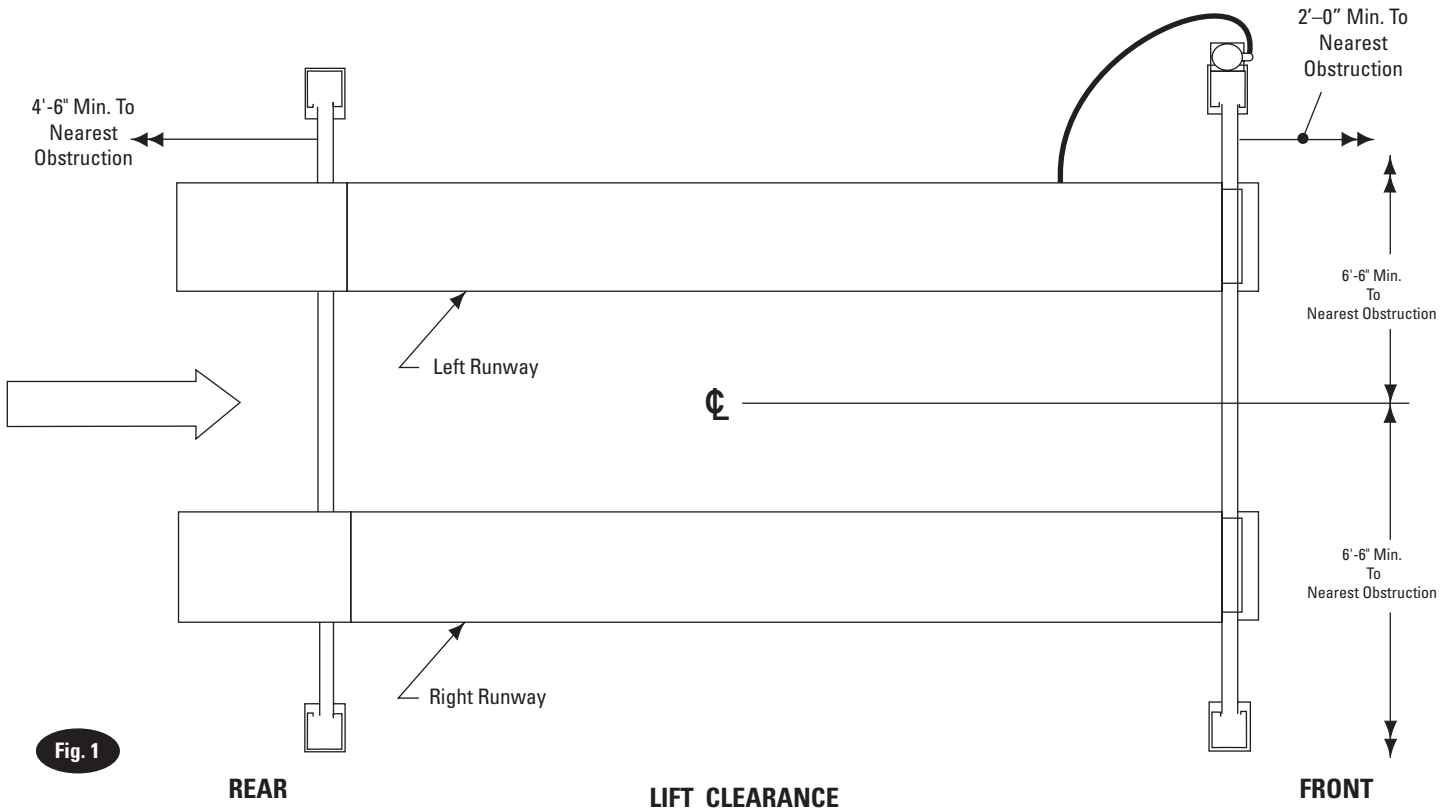
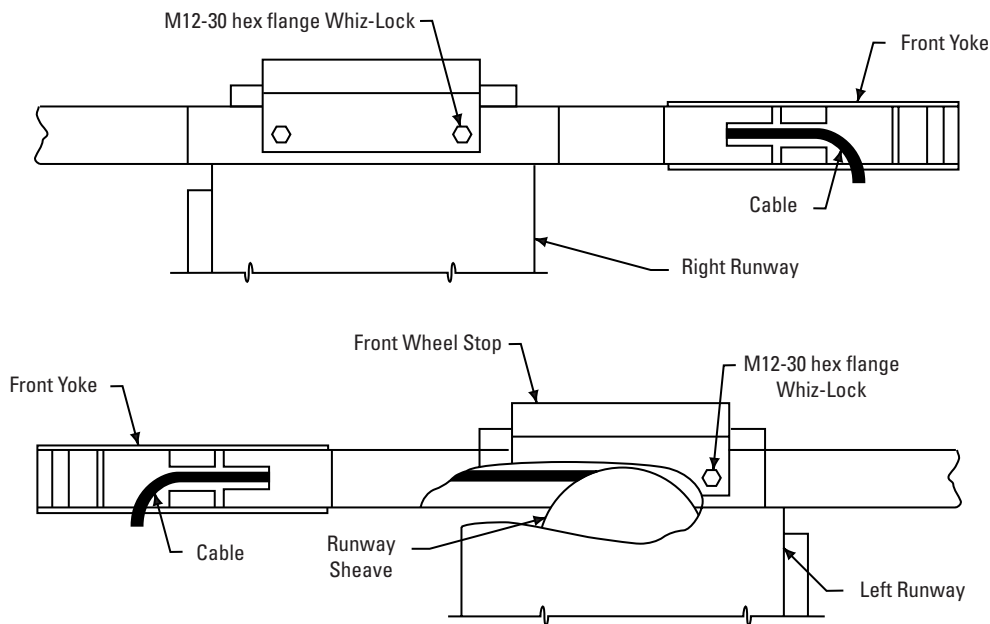

Fig. 1
Fig. 4
- Lift Location:** Use architects plan when available to locate lift. Fig. 1 shows dimensions of a typical bay layout. For power unit at right front, rotate lift 180°, leaving ramp/chocks and wheel stops in original position. Lift floor area should be level.
- C. Position front and rear yokes at respective ends of runway, Fig. 1. The opening in the side of the yokes should be lined up with the cable sheaves in the runway ends. Feed cable ends through yoke openings, Fig. 4. Do not assemble sheaves in yoke ends at this time.
With the openings in the yoke tube side lined up with the left runway ends, align the two (2) holes in the top of the front yoke tube with the slots in the runway end plates and the holes in the front wheel stops. Bolt runway to the yoke using four M12-30 hex flange bolts, Fig. 4.